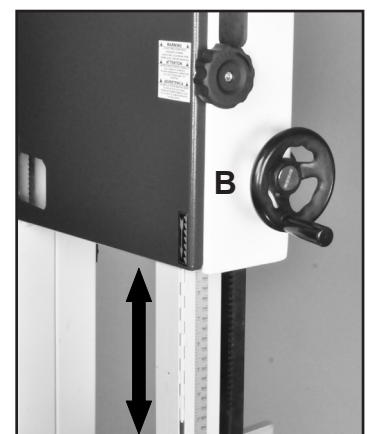

FIGURE 30
1. Loosen the Guidepost Lock Knob (#1C, Fig. 29A) and turn the Guidepost Handle (#38C, Fig. 30, B) to raise or lower the guide post/upper blade guide assembly to the desired height.